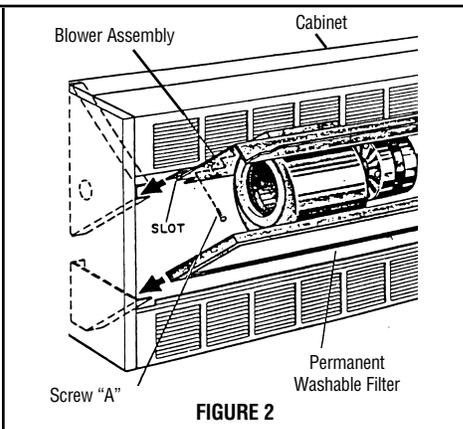

FIGURE 2
For wall-mounted units, in order to ensure adequate support, a greater number of mounting holes may be used. To gain access to them, the motor and blower assembly and filter must first be removed. Remove the screws at each end of the assembly as shown in Figure 2, then pull out assembly. Be sure to disconnect Molex plug at the blower deck removing assembly. Slide out filter as shown. The unit is now ready for securing to the wall.
2. If motors or blowers need servicing, they can easily be removed by removing screws as illustrated in Figure 2. Complete assembly then slides out, after Molex connector is unplugged.